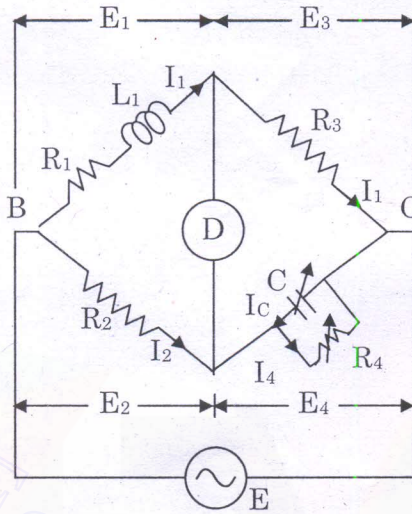

Fig. 1
- (b) A Maxwell's capacitance bridge shown in Fig. 1 is used to measure an unknown inductance in comparison with capacitance. The various values at balance :  $R_2 = 400 \text{ ohm}$ ;  $R_3 = 600 \text{ ohm}$ ;  $R_4 = 1000 \text{ ohm}$ ;  $C_4 = 0.5 \mu\text{F}$ .